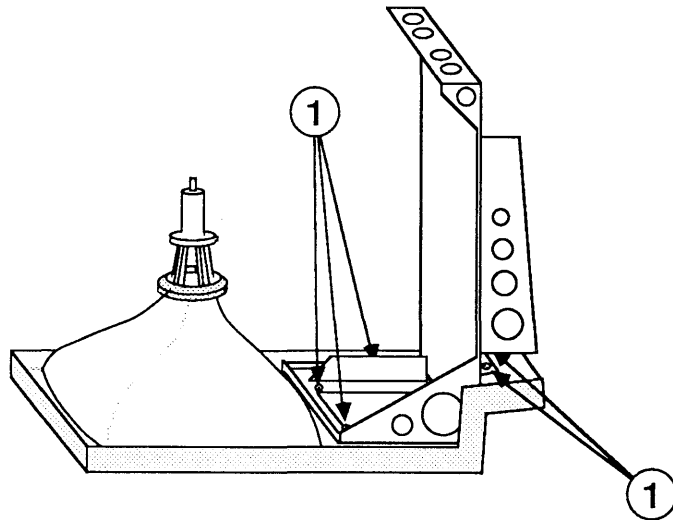

FIGURE 18
7. Remove the five Torx screws (Figure 18, #1) that secure the metal chassis to the bezel, and lift out the chassis (with internal disk drive attached).
11. Position the new chassis, with the internal disk drive attached, on the new bezel and install five Torx screws (Figure 18, #1).